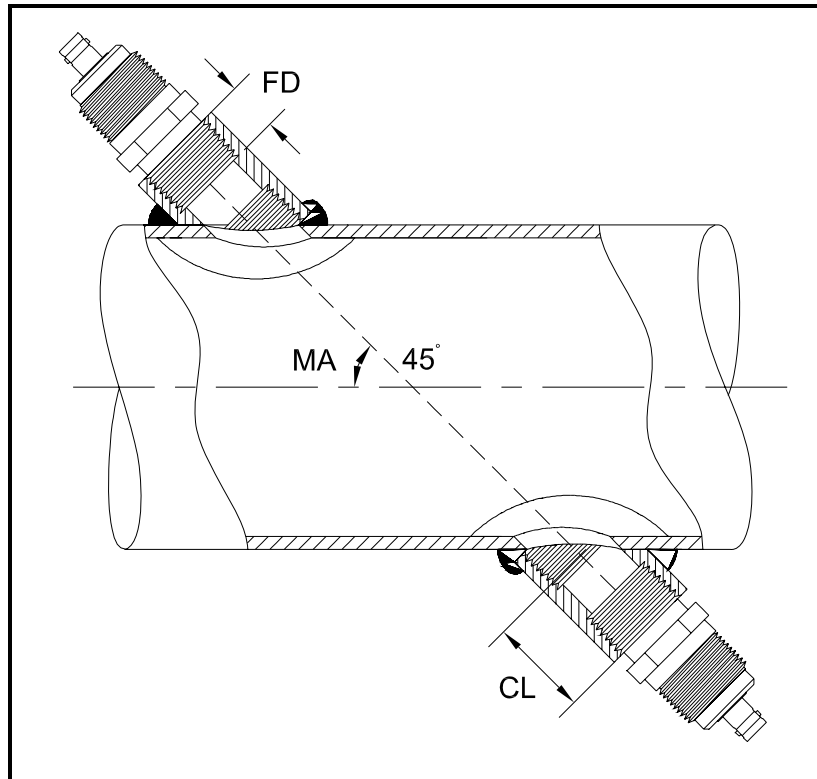

Figure D-5: Determining the Pipe Coupling Length
- the pipe inside diameter (ID)
- the wall thickness (WT)
- the installed pipe coupling length (CL)
- the transducers face depth (FD)
- the mounting angle (MA)
Measuring P and L (cont.) Use Figure D-5 below to properly measure the coupling length. Typically, the transducer face is positioned just outside the inside diameter (ID) of the pipe, or slightly retracted inside the coupling.